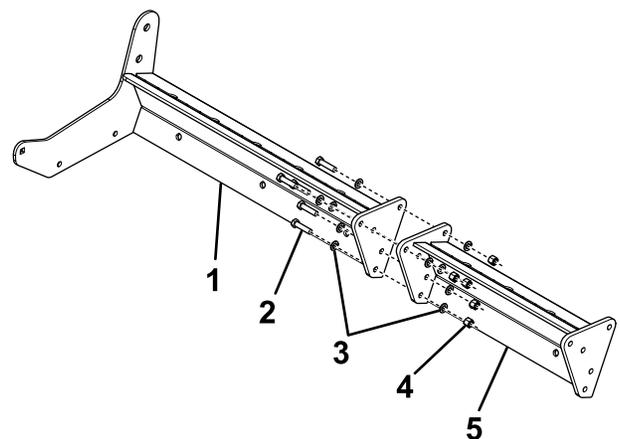

Figure 2
3. Loosely secure the left and right blade sections together using the appropriate number of center blade sections, bolts (1/2 x 2 inches), washers, and locknuts according to the table below (Figure 2):